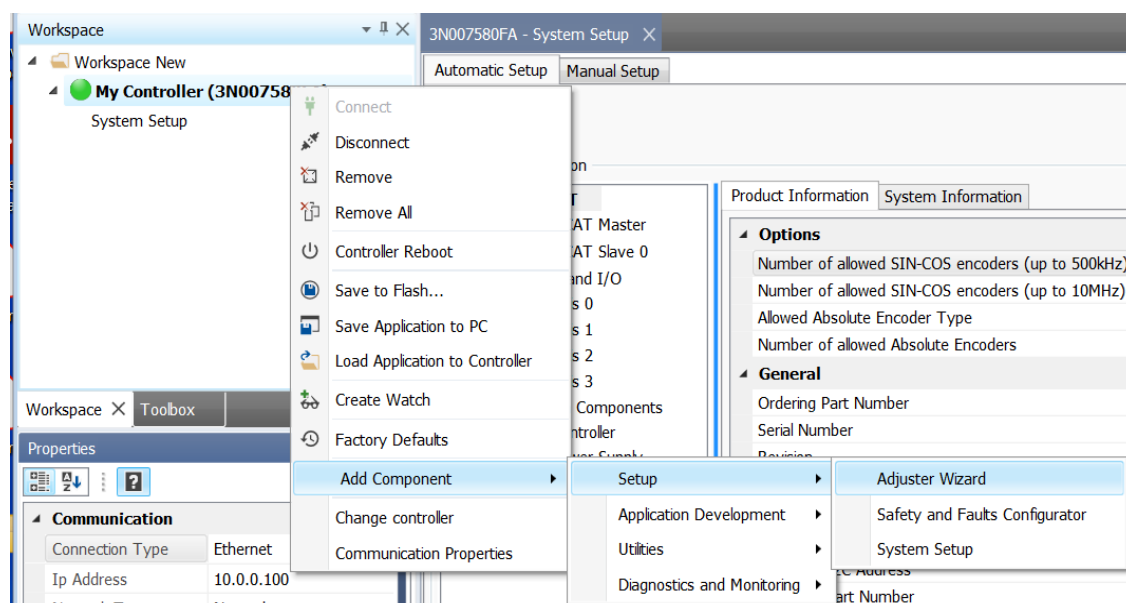

Figure 6-1. Select the Adjuster Wizard
1. In the Workspace panel of the SPiiPlus MMI Studio, right-click on the Controller, then select **Add Component > Setup > Adjusted Wizard** (see Figure 6-1).